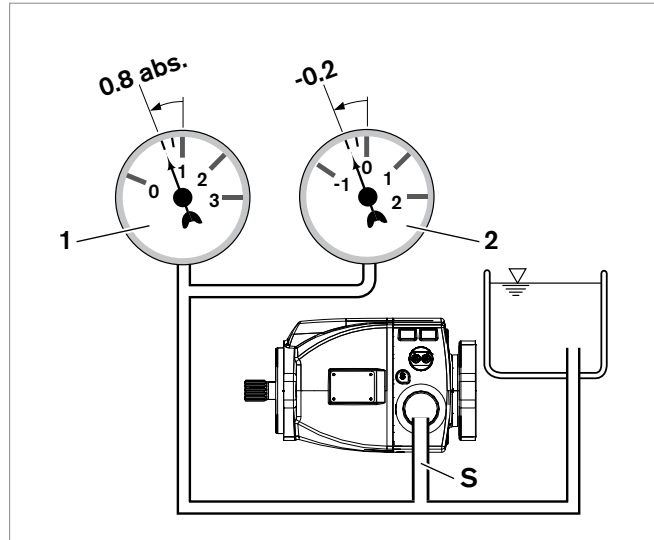

Fig. 6: Suction pressure
- Make sure that a minimum suction pressure of 0.8 bar absolute is present at port "S" during operation for all installation positions and installation locations of the axial piston pump; see Fig. 6. Please note that the values stated in the data sheet for the maximum speed are valid for a suction pressure of 1 bar absolute at suction port S. See data sheet for pressure values.